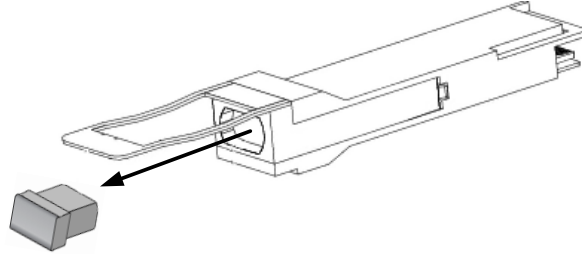

Figure 2 : QSFP+ Module with pull tab latch open
2. Remove the dust plugs from the module as shown in Figure 2.